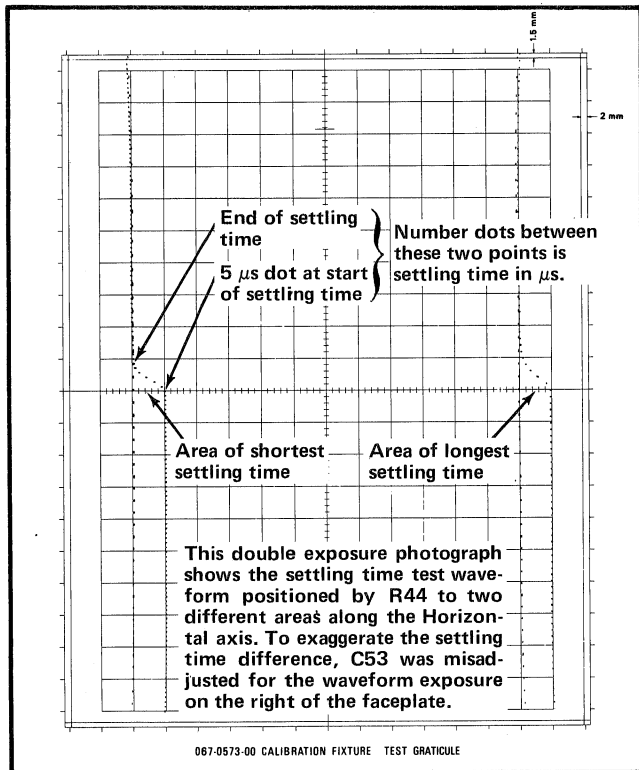

Fig. 5-23. Double exposure photograph of the settling time calibration waveform showing an exaggerated difference in settling time between two areas.
h. Set the Type 114 Variable Amplitude control and, if necessary, the Amplitude switch to +1 and 3 V to obtain a 1-cm pulse amplitude. Set the Variable Width control so that a 5 μ s dot is positioned at a point where the settling time is just starting (Fig. 5-23).
i. Count the number of microseconds settling time by counting the time-marker dots in the settling area of the display (Fig. 5-23). End of settling time is when the beam is located within one spot diameter of its final position.